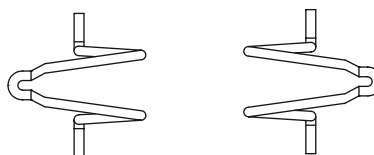

Fig. 22
- Pair of connector retention clips HZZ01209-G; see fig. 22